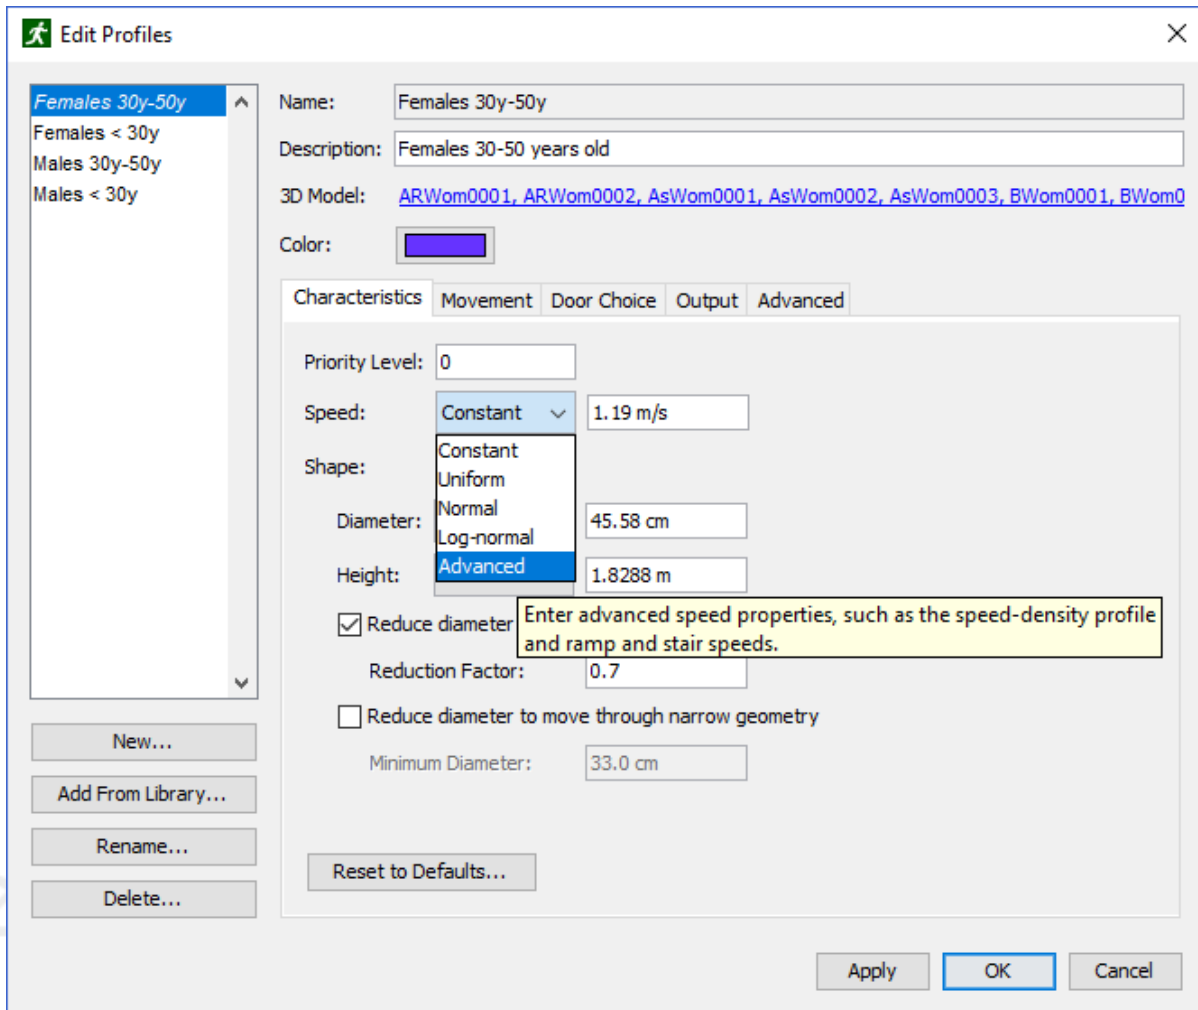

Figure 111. Editing advanced speed properties
3. Next to **Speed**, click the drop-down box and select **Advanced** as shown in Figure 111.